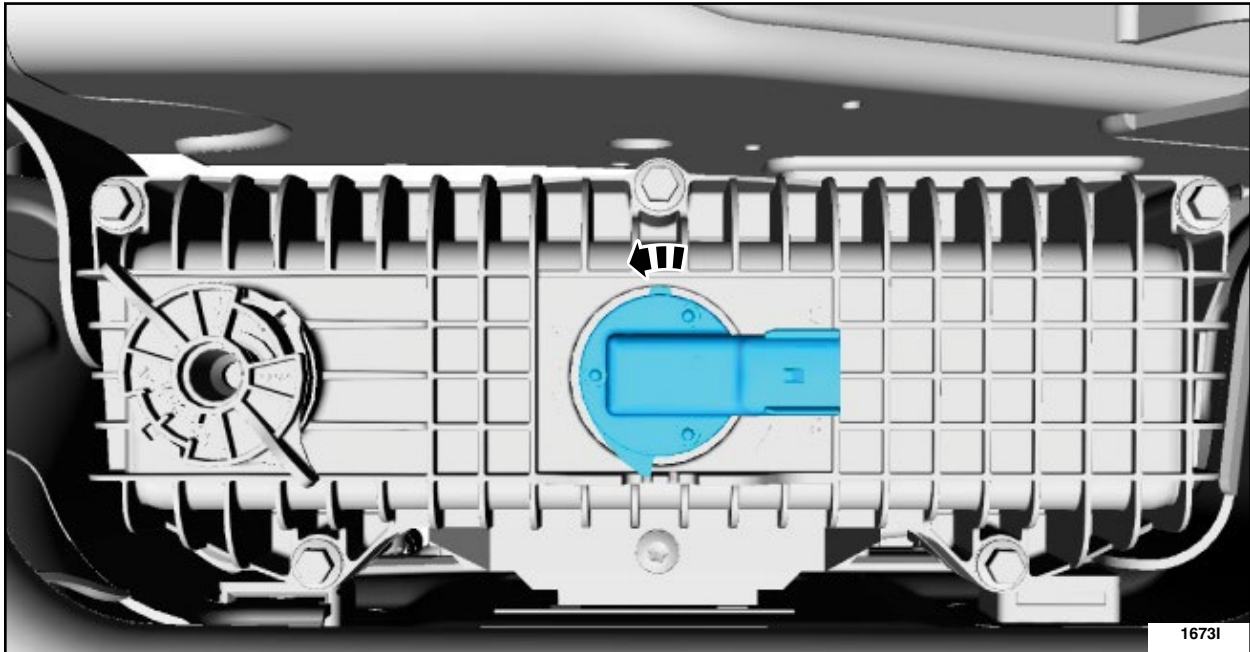

FIGURE 6
9. Rotate the WIF sensor counter clockwise and remove the sensor. See Figure 6.